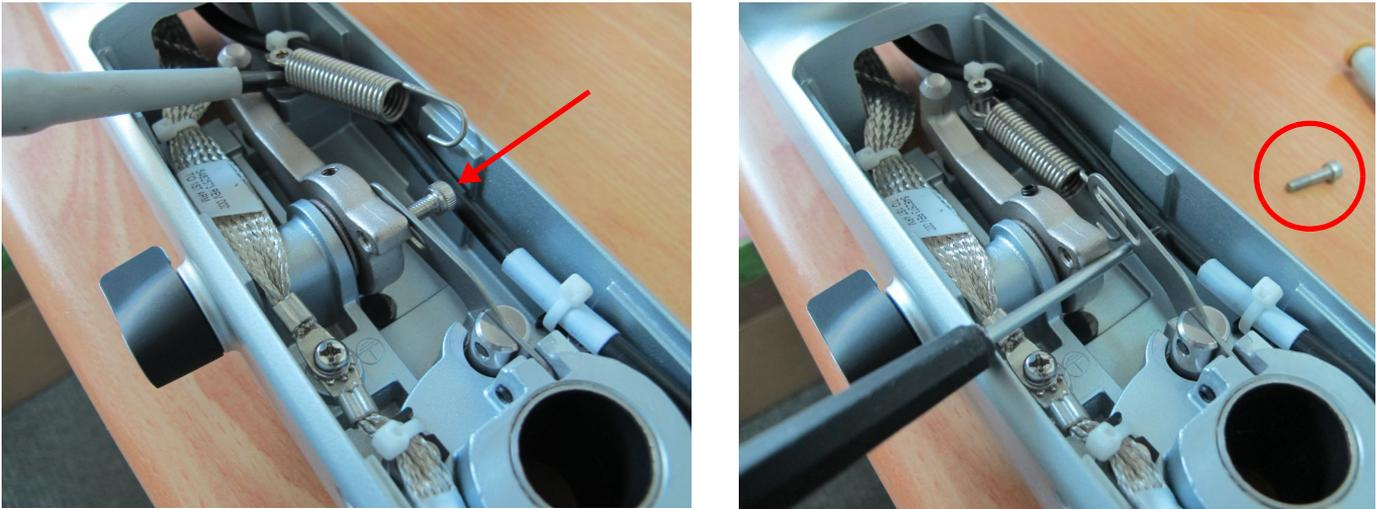

Figure 8-261 Spring Released
- 3.) Release the spring as shown in Figure 8-261.
- 4.) Release the metal slide by removing the securing screw - see Figure 8-261.